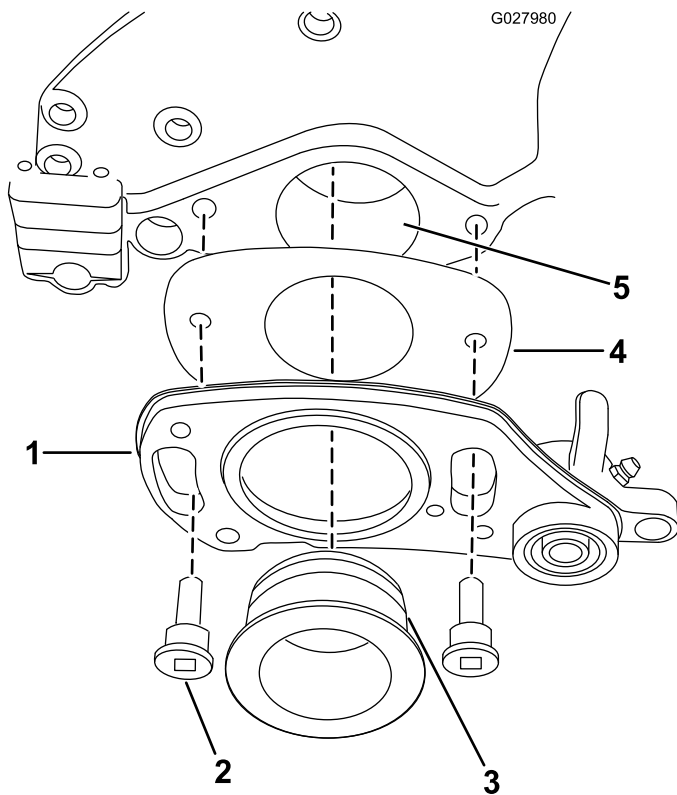

Figure 4
8. Slide the shim plate onto the rear of the right-hand drive assembly as shown in Figure 4.
9. Put a light coating of grease on the O-ring and the pilot bore (Figure 4).
10. Secure the right-hand drive assembly using 2 shoulder bolts (Figure 4).